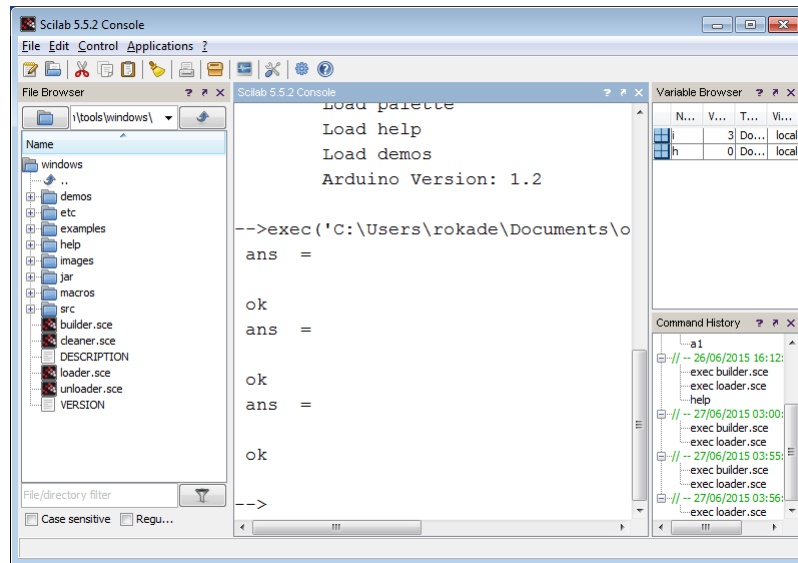

Figure 3.13: Scilab test code output
- To execute this code, on the menu bar, click on the **Execute**, option. Then choose **File with no echo**. The output will appear on the console as shown in Fig. 3.13. As shown in the figure, we see the response of this code as “ans = ” and “ok” three times. The code basically gives some input to Arduino three times and the program inside it returns “ok” three times. This code thus confirms the working of the Scilab-Arduino toolbox. The code also confirms that the firmware inside the Arduino is correct. It is alright if one or two of the attempts out of three give a blank response. But all the three responses certainly should not be blank⁵.